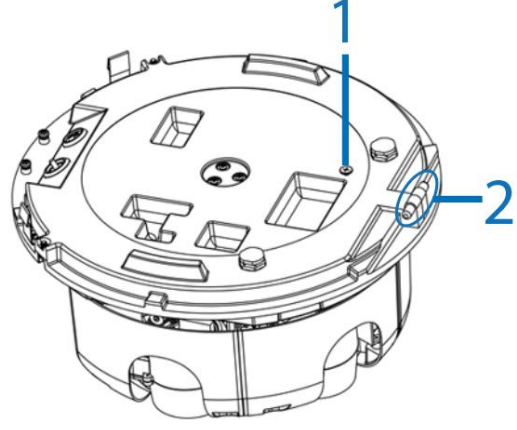
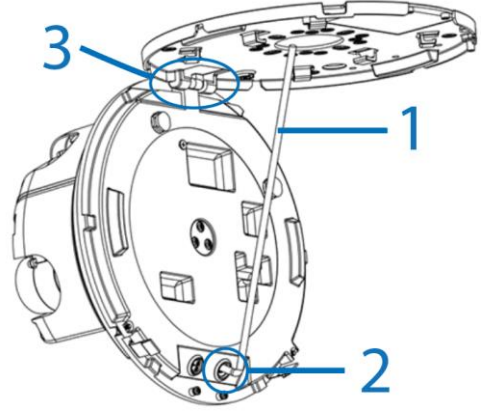
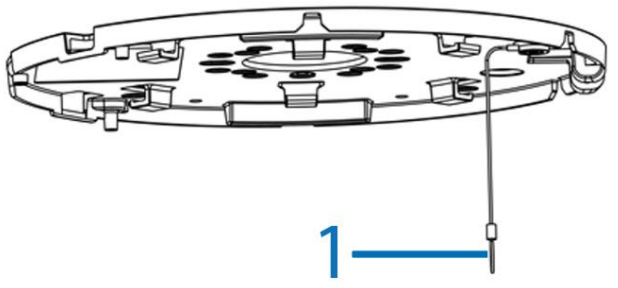
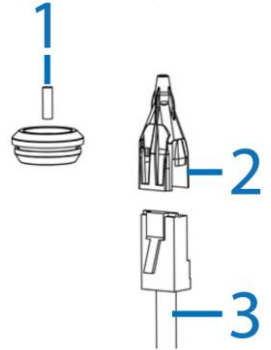

Figure 6
Figure 8
Figure 5
Figure 7
8. Insert the 'hinge pins' (2) (Figure 6) on the camera module lens into the 'hinge knuckle' on the mounting plate. '3' in Figure 8 identifies how the camera lens module and mounting plate attach together.
10. Insert the RJ-45 cable (3) (Figure 7) into the insert tool (2) (Figure 7) remove the rubber grommet (2) (Figure 8) from the camera lens module.
11. Pierce the rubber grommet (1) (Figure 7) by passing the insert tool and cable through the center of the rubber grommet.
7. Hold the camera lens module up to the mounting plate and insert the 'loop' on the safety lanyard (1) (Figure 5) that is attached to the mounting plate to the screw (1) (Figure 6) on the camera lens module.
12. Pass the insert tool and cable (1) (Figure 8) through the rubber grommet hole (2) (Figure 8) on the camera lens module.